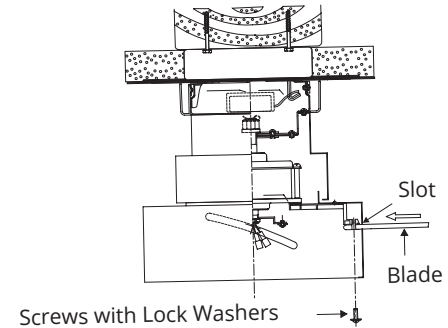

FIG.19
1. Insert the blade through the slot in the housing. Align the holes in the blade with the fan motor assembly holes and secure with blade attachment screw with lock washers (**FIG. 19**).